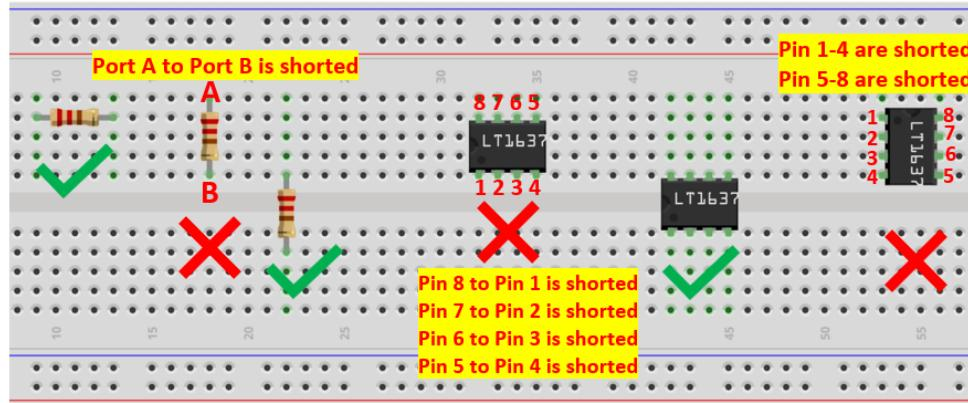

Figure 2: How to correctly place chips and resistors onto breadboard
- b. DIP support is designed specifically for you to insert the chips. See Figure 2 as an example of how DIP support is used. Note that the power strips on either side of DIP support is not connected.